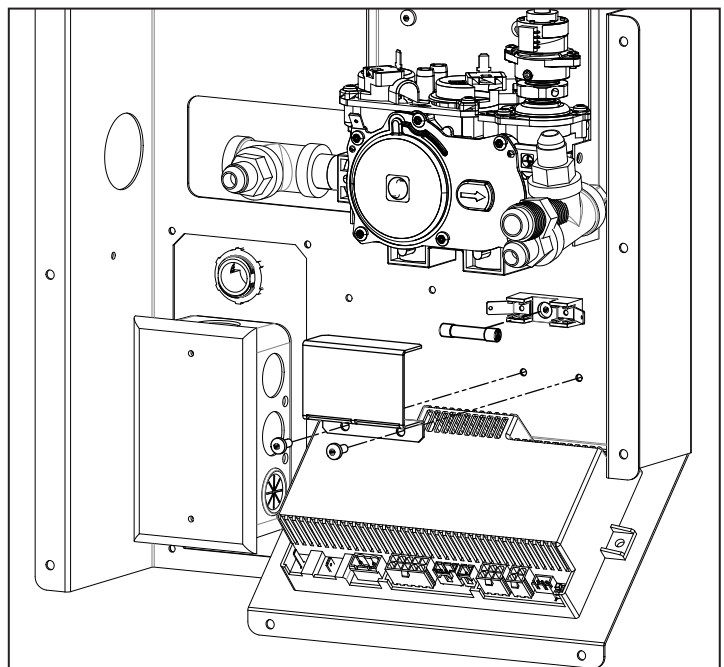

Figure 20: Fuse Removal
7. Remove the right liner from the firebox. See Figure 20.
3. Remove the fuse cover by removing the two T-20 screws (see Figure 20).